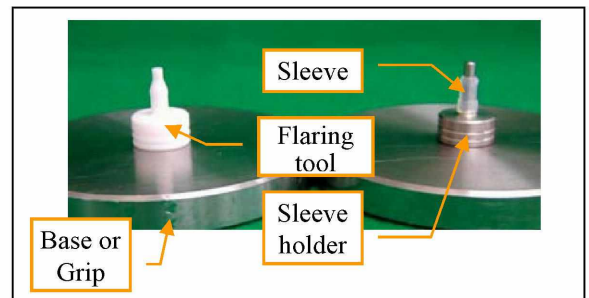

Fig. 74 - Preparation for flaring
- Set the Flaring tool and the Sleeve holder to Base or Grip (see Fig. 74).